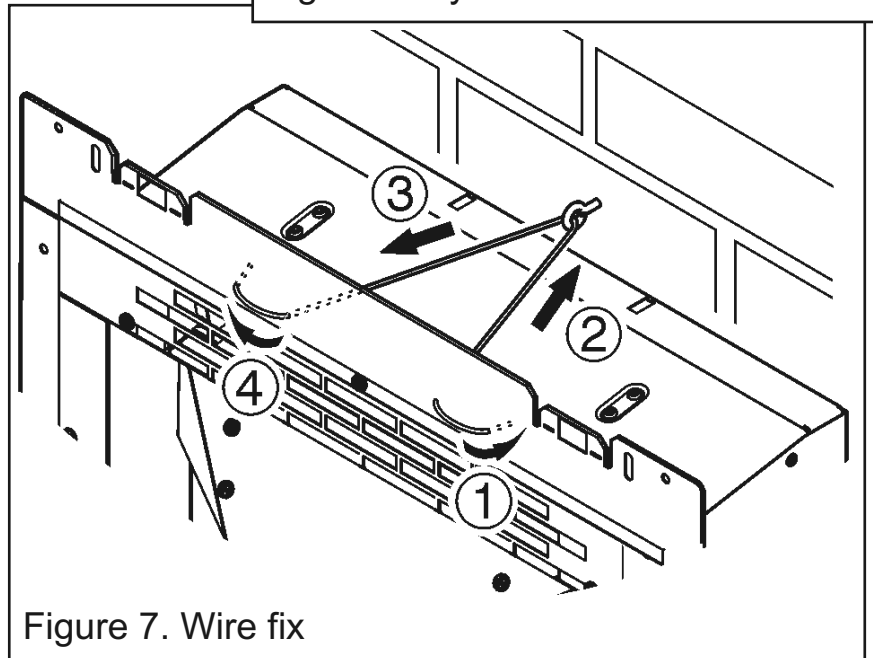

Figure 7. Wire fix
7. At the top of the heater there are four small holes, two each side of the heater. From the front of the heater, thread about 50mm of the steel wire into the outside small hole on the right side of the heater (See point 1 - figure 7).
8. Thread the other end of the wire through the remaining small hole to the left. Continue to push the wire through this hole until there is only a small loop of wire at the front of the heater (See point 2 - figure 7).
Take the long piece and thread this through the eyescrew in the back of the fireplace opening (See figure 7).
small hole on the left hand side of the heater (See figure 7).
11. Locate the heater in the fireplace opening, then from the front of the heater, gently pull the steel wire on the right hand side to gather up the excess until the heater is secure. Thread the wire through the remaining small hole to lock the wire and heater in place (See point 4 - figure 7).